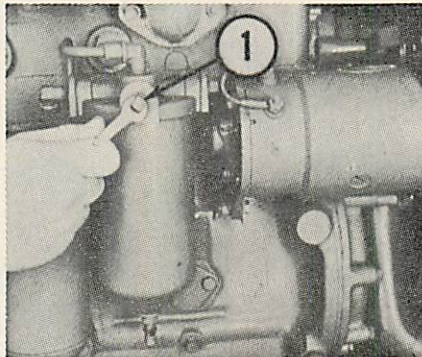
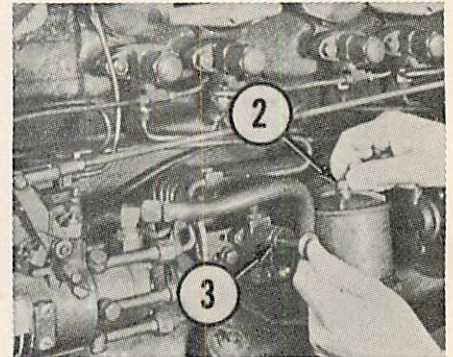

Fig. 081 — Remove plug (1) to purge air from primary fuel filter.
Fig. 082 — View showing method of bleeding final fuel filter. Refer to text.
113. To bleed the diesel fuel system, proceed as follows: Open fuel tank shut-off valve, then remove the plug from primary fuel filter (1—Fig. 081) and allow fuel to flow until all bubbles disappear. Reinstall plug. Loosen bleed screw (2—Fig. 082) on final fuel filter and actuate hand primer pump (3) or, on later models, primer lever on fuel supply pump,